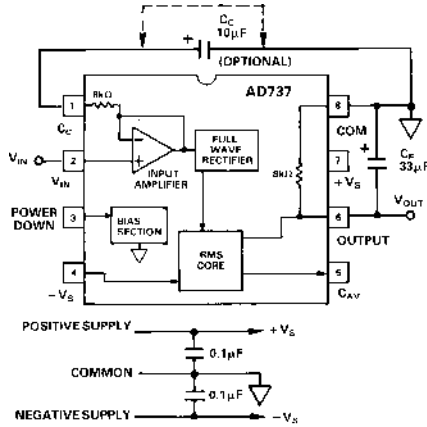

Figure 17. AD737 Average Responding Circuit
The output of the input amplifier drives a full-wave precision rectifier, which in turn, drives the rms core. It is in the core that the essential rms operations of squaring, averaging and square rooting are performed, using an external averaging capacitor,  $C_{AV}$ . Without  $C_{AV}$ , the rectified input signal travels through the core unprocessed, as is done with the average responding connection (Figure 17).
**RAPID SETTLING TIMES VIA THE AVERAGE RESPONDING CONNECTION (FIGURE 17)**